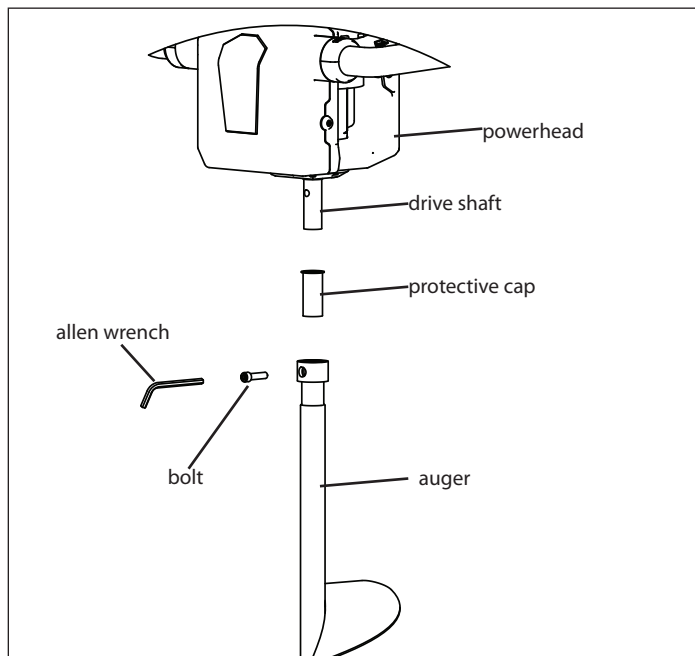

Figure 1
3. Remove the protective plastic cap from the drive shaft. Insert the drive shaft of the powerhead into the collar of the auger assembly. **SEE FIGURE 1.**
2. Remove the auger from the powerhead and apply a thin layer of grease to the drive shaft. **SEE FIGURE 1.**